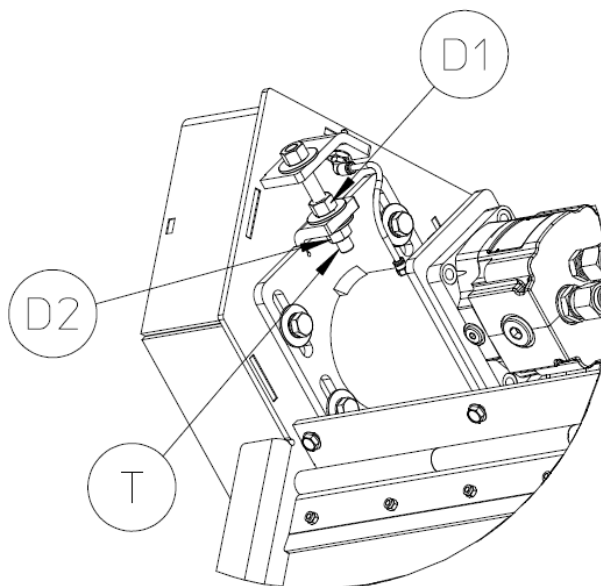

Figure 38
4. Tension the belts by operating on the tensioning screw T: to tension, first screw the nut D1 in anti-clockwise then screw nut D2 until the correct tensioning is reached (see the start of paragraph 4.2.2). Now, loosen in clockwise nut D1 until blocking is obtained. To loosen, screw in anti-clockwise nut D1 covering a run of about 10 mm and then loosen in clockwise nut D2 (figure 38);